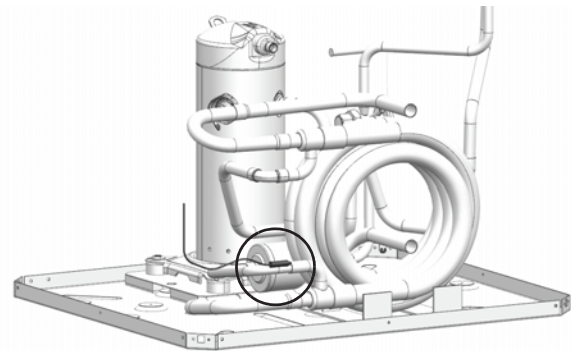

Fig. 18 — Water-Side Freeze Protection Sensor
- Evaporator freeze protection sensor, mounted between the thermal expansion device and the evaporator, monitors refrigerant temperature between the evaporator coil and thermal expansion valve. If temperature drops below or remains at freeze limit trip for 30 seconds, the controller will shut down the compressor and enter into a soft lockout condition. The default freeze limit trip is 30 F. (See Fig. 18 and 19.)
Freeze Sensor — The default setting for the freeze limit trip is 30 F (sensor number 1); however this can be changed to 15 F by cutting the R30 resistor located on top of the DIP switch SW1. Since freeze sensor 2 is dedicated to monitor the evaporator coil it is recommended to leave the factory default setting on the board. The Complete C controller will constantly monitor the refrigerant temperature with the sensor mounted close to the condensing water coil between the thermal expansion valve and water coil. If temperature drops below or remains at the freeze limit trip for 30 seconds, the controller will shut the compressor down and enter into a soft lockout condition. Both the status LED and the Alarm contact will be active. The LED will flash three times the code associated with this alarm condition. If this alarm occurs 2 times (or 4 if DIP switch is set to 4) within an hour the Complete C controller will enter into a hard lockout condition. It will constantly monitor the refrigerant temperature with the sensor mounted close to the evaporator between the thermal expansion valve and evaporator coil as shown in Fig. 18. If temperature drops below or remains at the freeze limit trip for 30 seconds, the controller will shut the compressor down and enter into a soft lockout condition. Both the status LED and the Alarm contact will be active. The LED will flash three times the code associated with this alarm condition. If this alarm occurs 2 times (or 4 if DIP switch is set to 4) within an hour the controller will enter into a hard lockout condition.